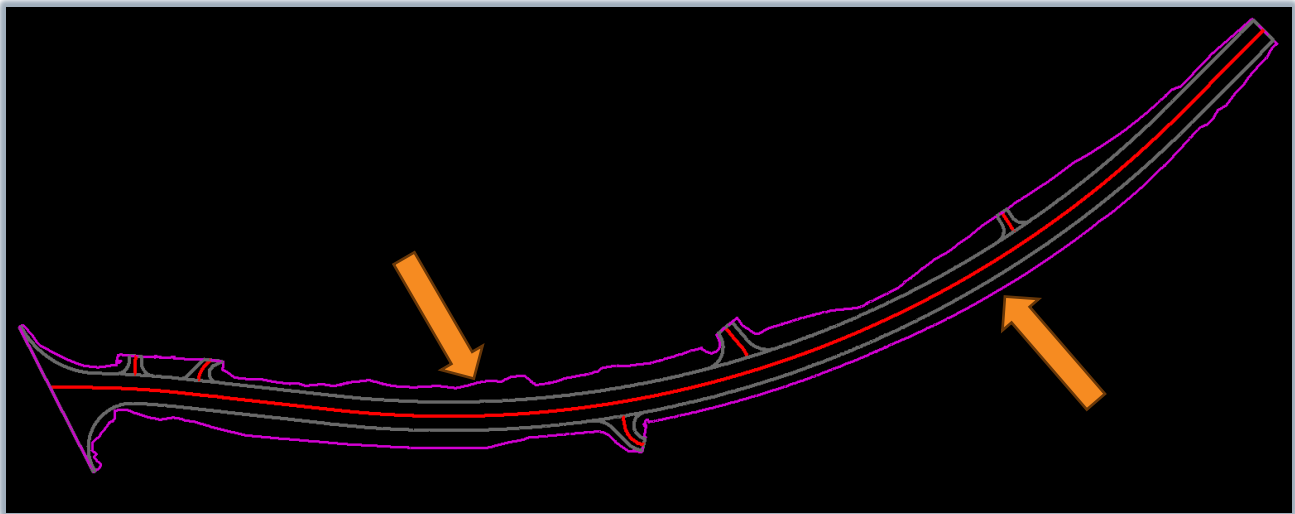

Figure 10 – Finished grade terrain boundary
- i. Use the Boundary Options -> Add Boundary tool in the Edit section of the Terrain tab of the OpenRoads Modeling workflow. Set the method to “Extract Graphic”, set the feature definition to “Terrain Exterior” and select the terrain. This will create an editable 3D linestring and preserve the terrain model. See Figure 10.